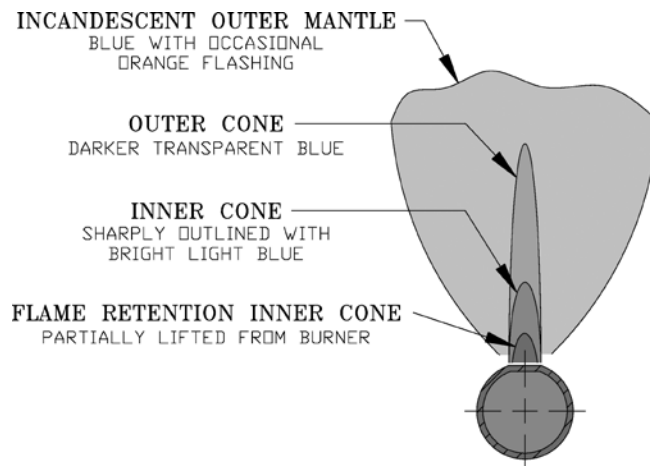

Figure 26: 1 Inch Main Burner flame
- K. Check main burner flame.** See Figures 26. Flame should have clearly defined inner cone with no yellow tipping. Orange-yellow streaks should not be confused with true yellow tipping.